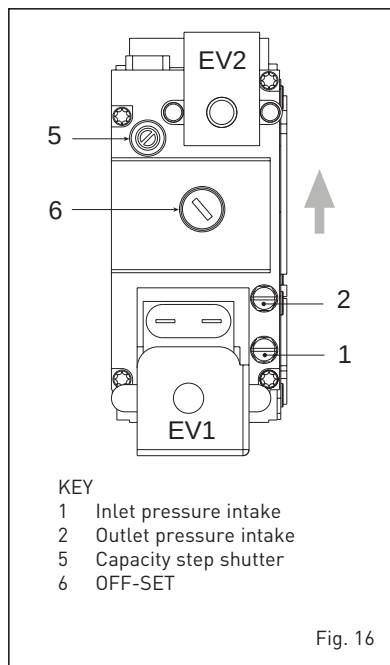

Fig. 16
With the boiler operating in the maximum rate condition check that the operational (working) gas pressure at the inlet gas pressure test point (see fig 16 item 1) complies with the requirements of table 1.3.
Any adjustments should be done in small steps and adjustments of no more than 1/8th of a turn should be made, waiting at least 1 minute between adjustments to allow the settings to stabilise. Using the CO₂ reading, adjustments should be made to the "OFF-SET" screw (6 fig 16) if it is incorrect at the minimum output, or to the "SHUTTER" (5 fig 16) if it is incorrect at the maximum output.
4.1 GAS VALVE (fig. 16)
The boiler is supplied as standard with a gas valve, model SIT 822 NOVAMIX (fig. 16).
- 3) Identify the CO₂ values at max. power by adjusting the shutter (5 fig. 16):
- 5) Identify the CO₂ values at min. power by adjusting the OFF-SET regulation screw (6 fig. 16):